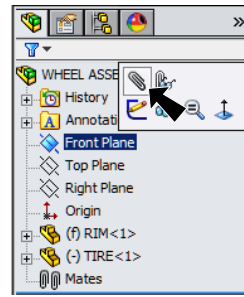

Fig. 3
Step 1. Click **Front Plane**  in the Feature Manager and **Mate**  on the Context toolbar, **Fig. 3**.